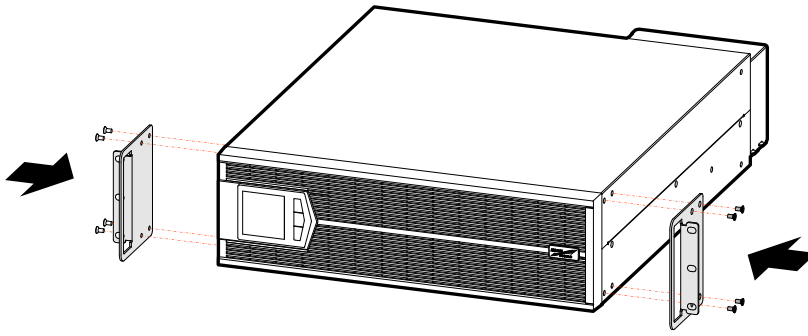

Figure3-6 Install angle iron
- Step 1 Fasten the two angle irons onto the two sides of the UPS by 4 sunk screws M4×8, as shown in Figure3-6.